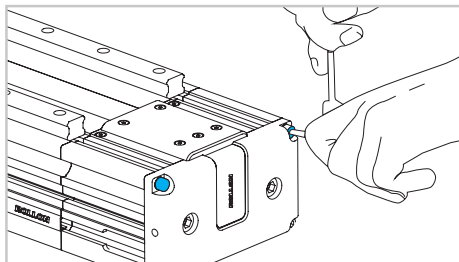

Fig. 11
- 12) Untighten the 4 screws on the idle head plate (see Fig. 11).